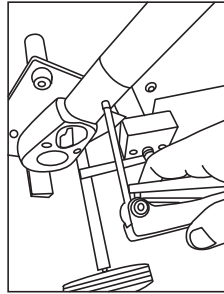

Fig 3
3. After installation of bending shoe (1) remove bending handle from secured location on the BENDstation™ Workstation or BENDdolly™ Bending Platform and install into ratchet or handle receiver. Align hole in bending handle with hole in ratchet or handle and secure with supplied Allen bolt (Fig. 3).